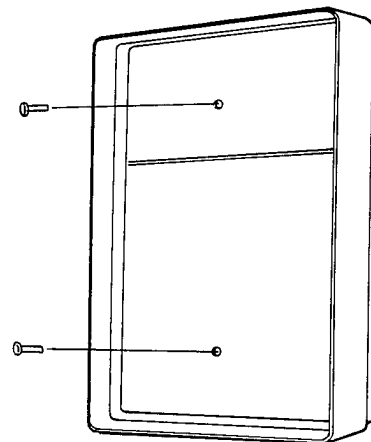

Figure 2 MOUNTING BASE ON WALL
- Mount the base on the wall in the desired location ( Figure 2 ). ( Do not over tighten screws. Use only flat head screws. )